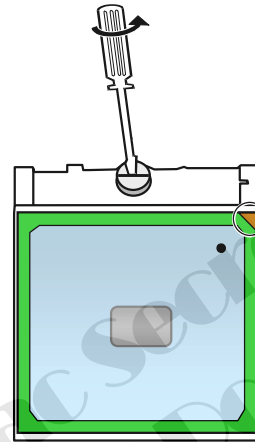

Figure 2-6 Remove the CPU
4. To remove the existing CPU, loosen the screw by a flat screw driver, upraise the CPU socket to unlock the CPU. (Figure 2-6)